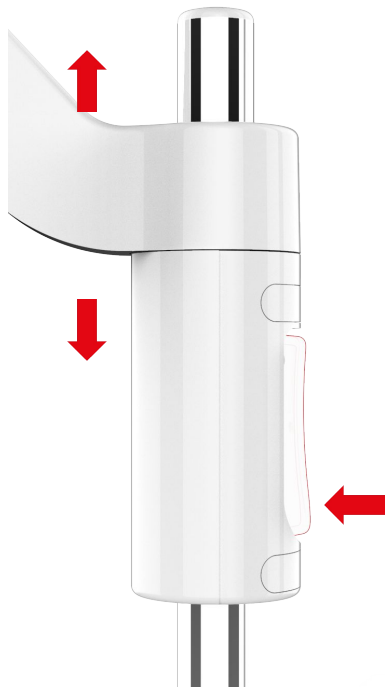

Fig.3
c. Press and hold the height adjustment button to slide the handset arm up and down. (Fig.3)